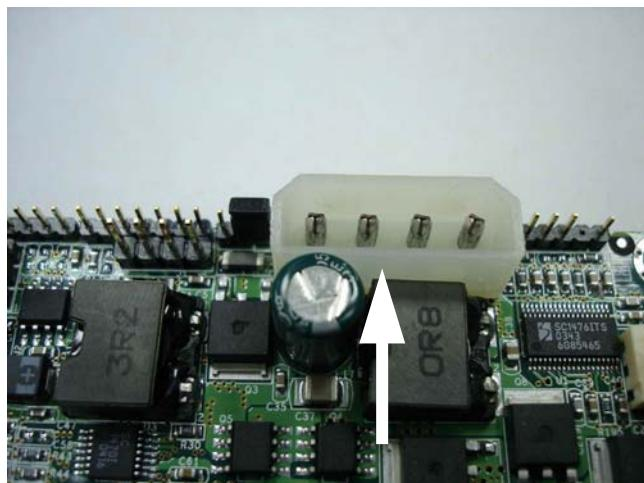

Figure 5-1
ROBO-6710/6730 series requires power drawing from the power connectors (CN1), please connect the IDE Peripheral power connector. If this connector is not connected, then the system might fail to boot up. (Figure 5-1) !!
Step 4: Please check the connection of the IDE Peripheral power connector properly (CN1), which shows on Figure 5-1.